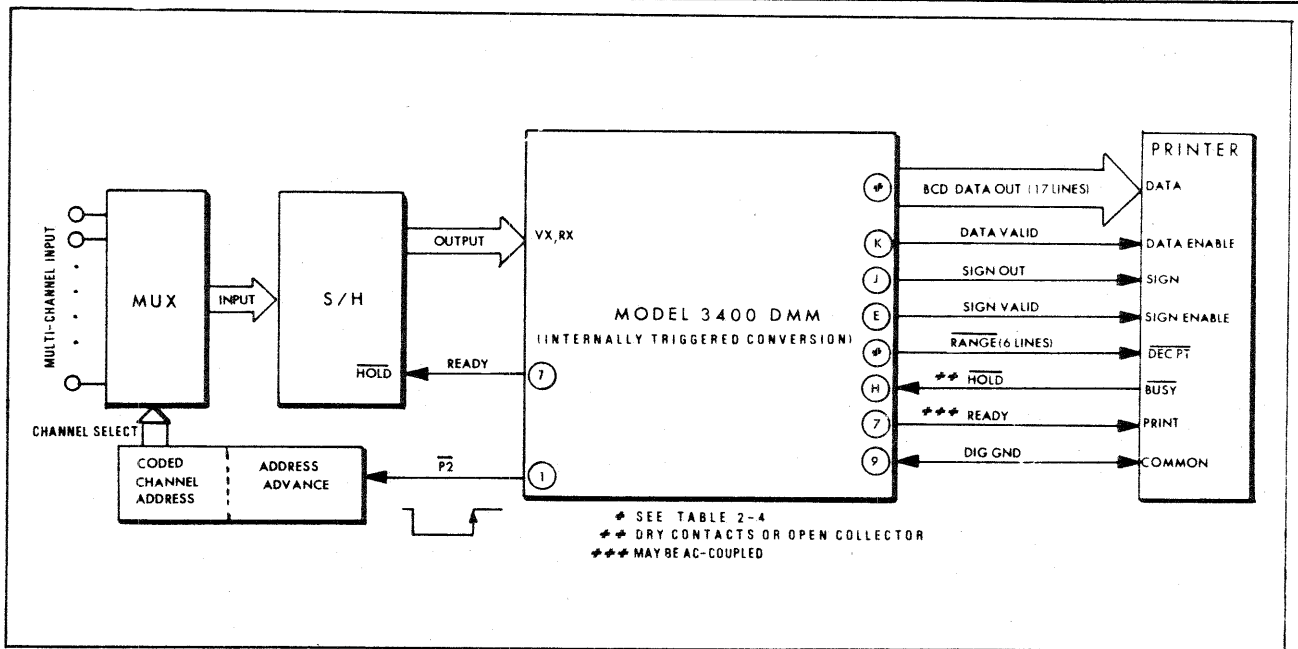

Fig. 2-9. Typical remote system operation of MODEL 3400DMM
b. Input Control and Output Data and Status Signals should be cabled as shown in Table 2-4. A typical system connection is shown in Figure 2-9, and that illustration identifies some of the functions that may be performed by the control inputs and status outputs.